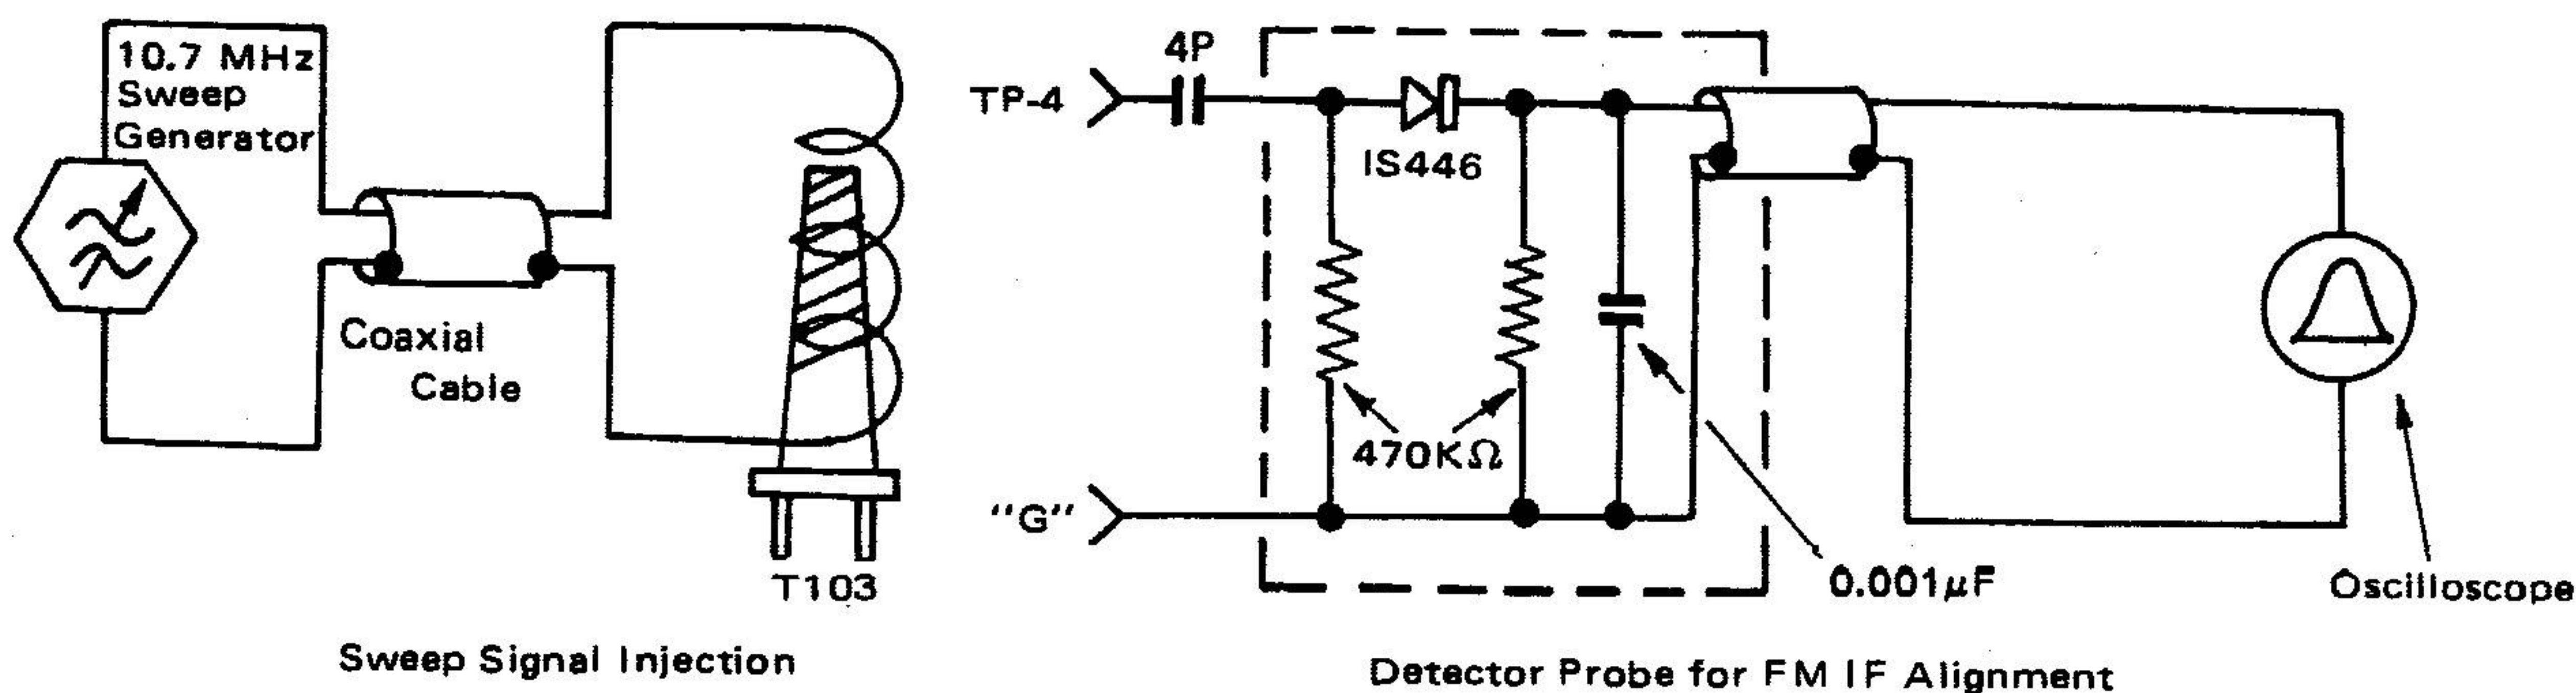

Figure 3.
1. Couple the output of the sweep generator to T103 [Mixer Transformer] through a coupling coil [2 or 3 turns of vinyl wire] as shown in Figure 3.
2. Connect the detector probe across "TP-4" and "G" [ground] as shown in Figure 3. The hot lead of the probe should be made as short as possible and the ground lead should be connected to the closest point to TP-4.